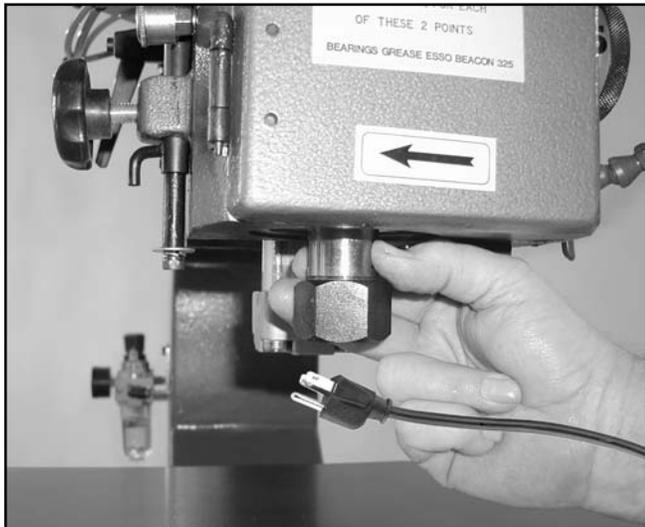

Figure 3. Spindle and nut. Note arrow direction.
2. Turn the spindle by hand as shown in **Figure 3**.